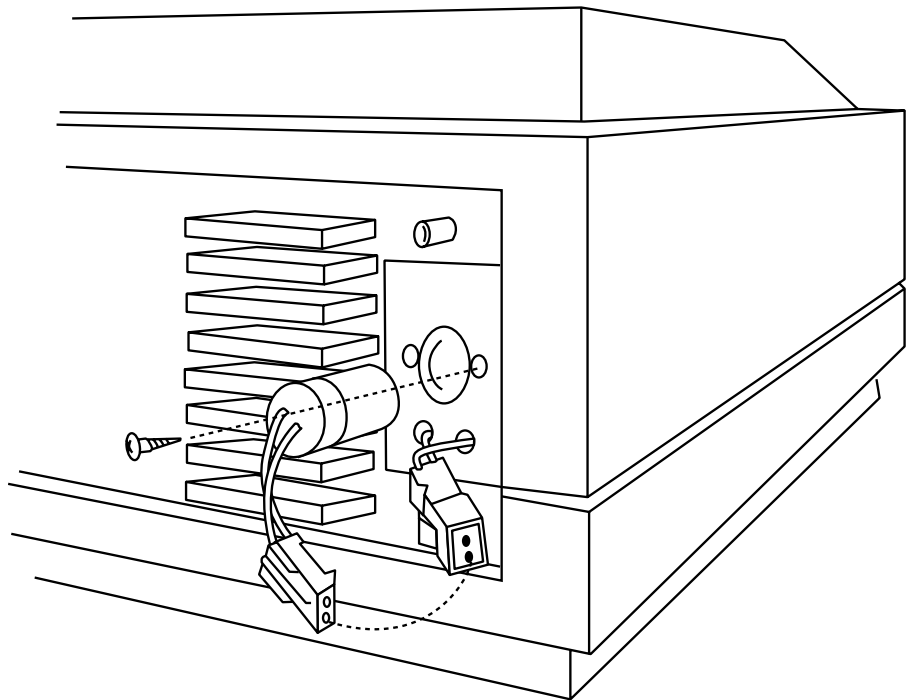

Figure 5: Removing the Burned-Out Lamp (Emax/Vmax)
- 6) Firmly grasp the snap connector beside the snap, then push the snap down with your thumb and pull the male and female halves of the connector apart (see Figure 5).